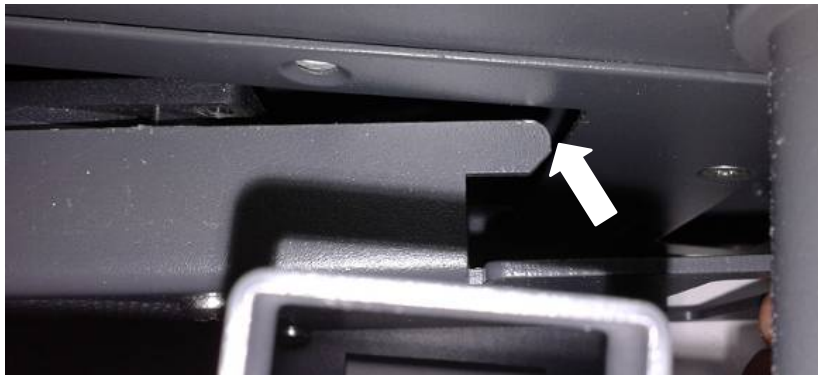

Figure 6-7 Hooking the fan tray assembly
- (3) Hook the fan tray assembly inside the Main housing at the right end as shown in Figure 6-7;